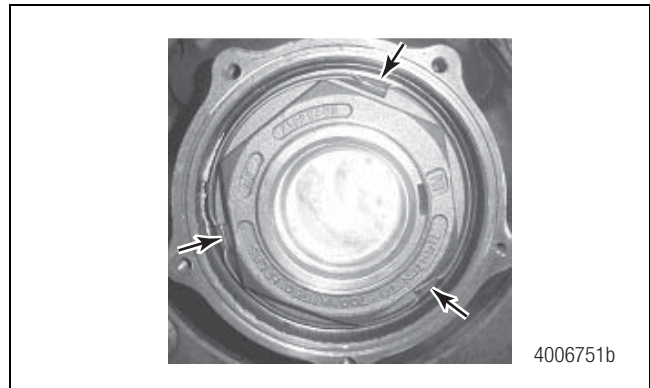
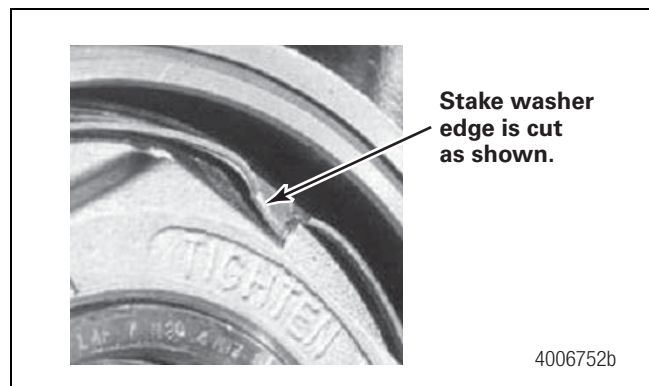

Figure 4.12
Figure 4.13
9. Use a hammer and staking tool to stake the stake washer to the spindle nut in **three** positions. Bend the washer to the stake profile as shown. Figure 4.12 and Figure 4.13.